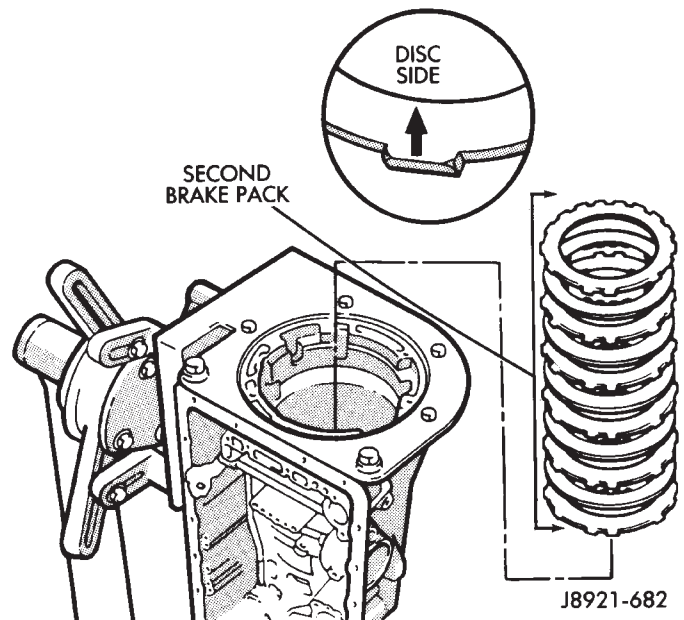

Fig. 15 Installing Second Brake Pack
(18) Install second brake pack (Fig. 15). Install disc then plate. Continue installation sequence until correct number of discs-plates are installed. Use five discs and five plates.